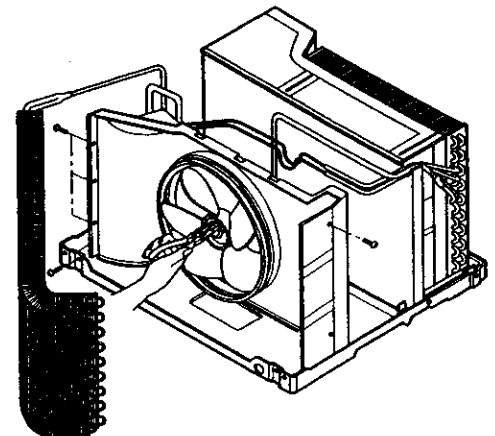

Figure 63
6. Remove the fan. (See Figure 63)